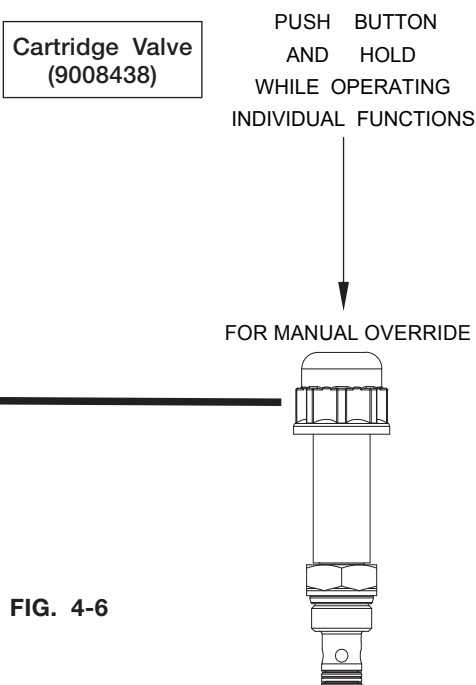

FIG. 4-6
6. Push and hold the manual override button on valve (9008438). (Fig. 4-6)